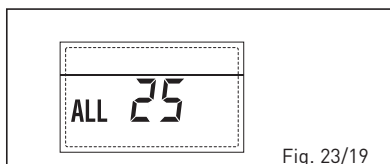

Fig. 23/19
- NUMBER OF BOARD CONNECTED ERROR "ALL 29" (fig. 23/u)